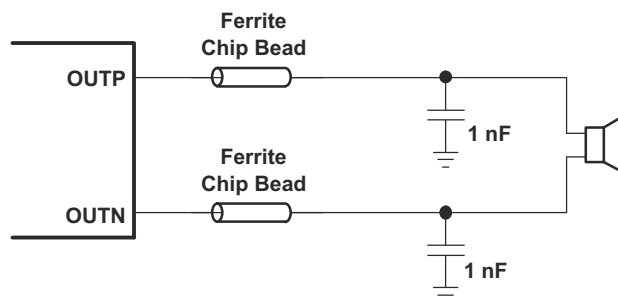

Figure 8-3. Typical Ferrite Chip Bead Filter (Chip Bead Example: NFZ2MSM series from Murata)
- Output filter—The ferrite EMI filter (Figure 8-3) should be placed as close to the output pins as possible for the best EMI performance. The capacitors used in the ferrite should be grounded to power ground.